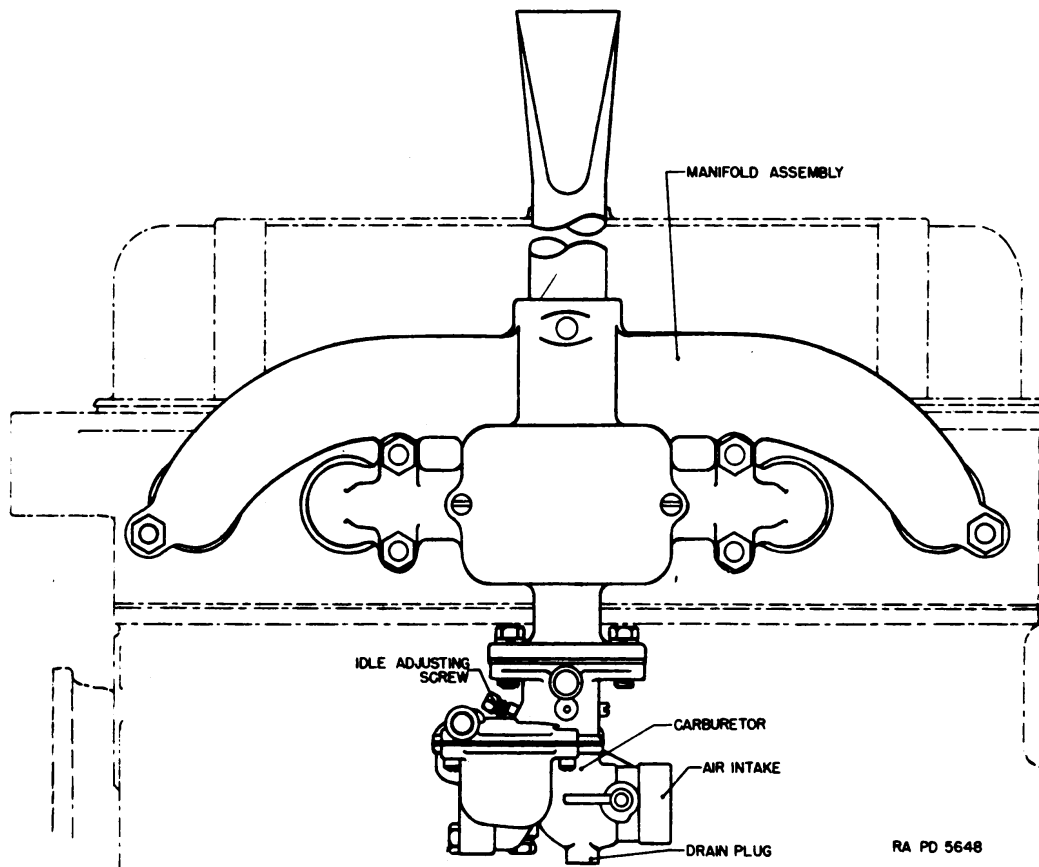
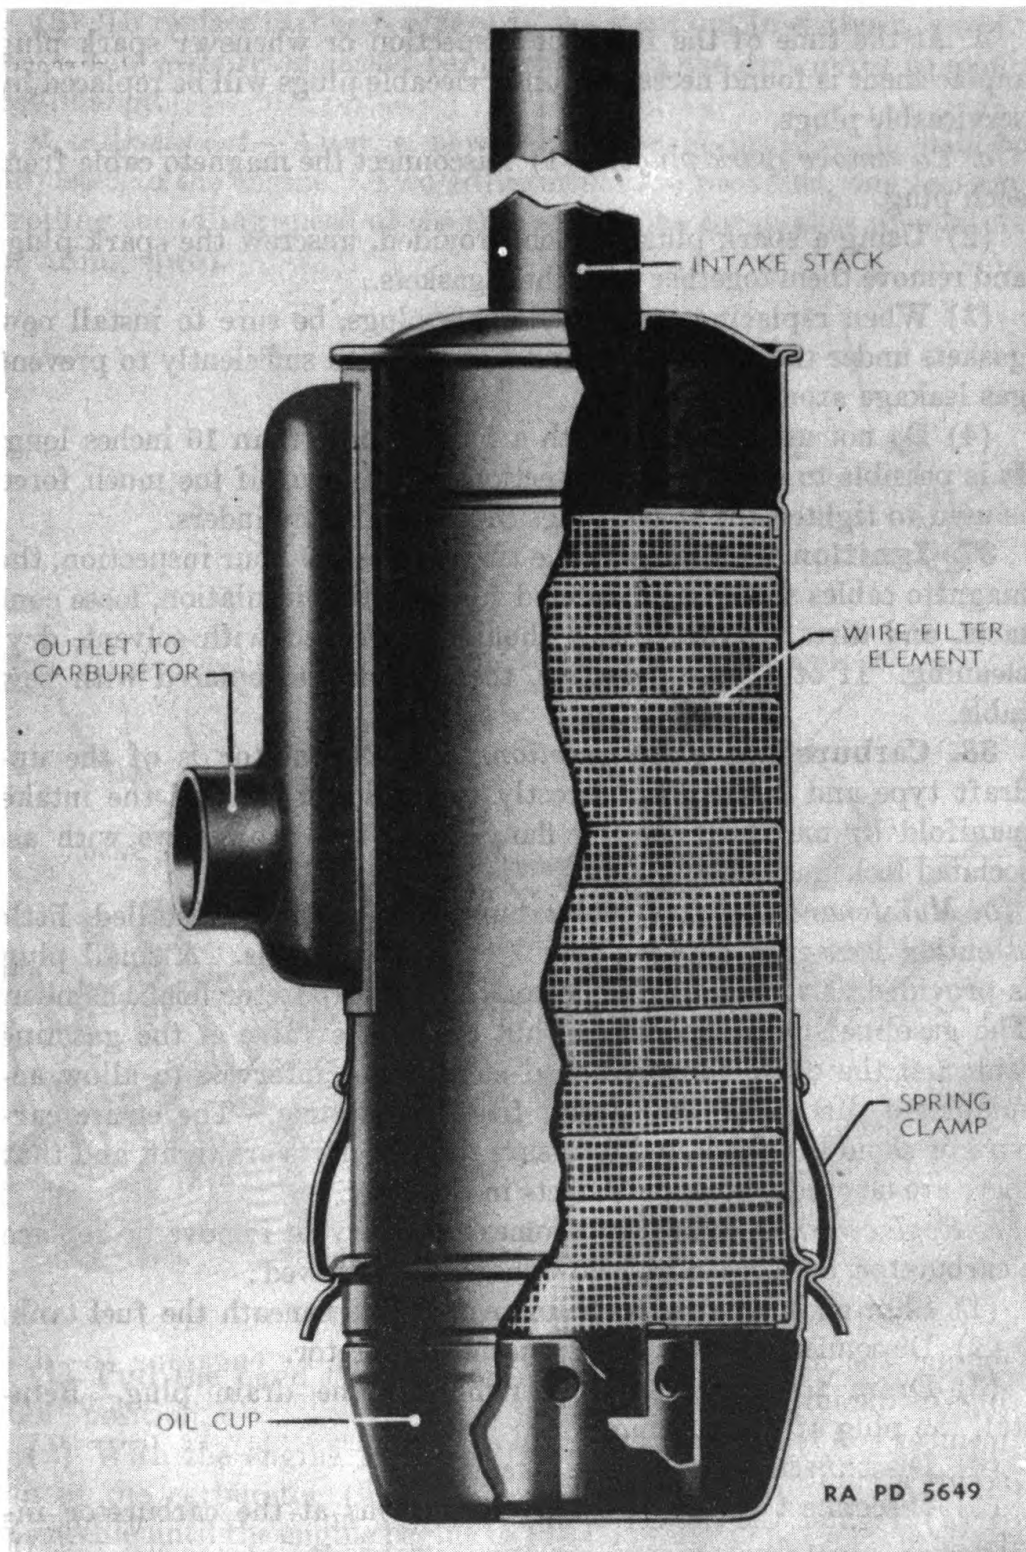

FIGURE 10.—Carburetor and manifold.
FIGURE 11.—Air cleaner—sectional view.
(2) *Improper fuel mixture.*—Adjusting screw (fig. 10) opened or closed too far. Air cleaner is clogged or dirty. Leaking intake manifold gasket.
(4) To replace, proceed in the reverse order of removal, using new oil pan gasket if available.
34. Manifolds.—*a.* The intake and exhaust manifold (fig. 10) is located on the left hand side of the engine and is a one piece casting. The manifold is fastened to the port connections by hex nuts and studs which pass through lugs on the manifold. The hex nuts at each end of the manifold are made of bronze to facilitate removal. The remaining four nuts are of steel. An exhaust pipe or stack extends vertically from the central opening in the manifold for discharge of exhaust gases into the open air. It is held in place by a locking bolt and nut, and lock washer.
c. *To remove spark plugs.*—(1) Disconnect the magneto cable from each plug.
(2) Using a spark plug wrench provided, unscrew the spark plugs and remove them together with their gaskets.
(3) When replacing with serviceable plugs, be sure to install new gaskets under the spark plugs and tighten them sufficiently to prevent gas leakage around the plugs.
(4) Do not use a wrench with a handle more than 10 inches long. It is possible to distort certain sections of the plug if too much force is used to tighten the spark plugs in the engine cylinders.
38. Carburetor.—a. *Description.*—The carburetor is of the up-draft type and is attached directly to the lower part of the intake manifold by means of mating flanges and two cap screws with associated lock washers (fig. 10).
(1) Pull the hand throttle control lever all the way back to the "Off" position.
(2) With the engine idling, adjust needle valve located on front top of the carburetor (fig. 10) for correct fuel mixture. Back off the needle until the engine begins to run unevenly, then turn the needle inwardly (clockwise) slowly until the engine runs smoothly. Turning the needle inwardly provides for a richer mixture to be delivered to the engine.
(3) The normal needle setting is approximately $1\frac{1}{2}$ turns out from the seat. After the mixture has been properly set, regulate the idling speed of the engine by adjusting the set screw on the throttle valve arm located on the inner side of the carburetor to obtain the lowest idling speed consistent with reliable operation of the engine. After making this adjustment, recheck the setting of idle needle valve adjustment.
39. Air cleaner.—*a. Description.*—An air cleaner of the oil bath type (fig. 11) is mounted on the left-hand side of the tractor and is hose connected to the carburetor air intake opening.